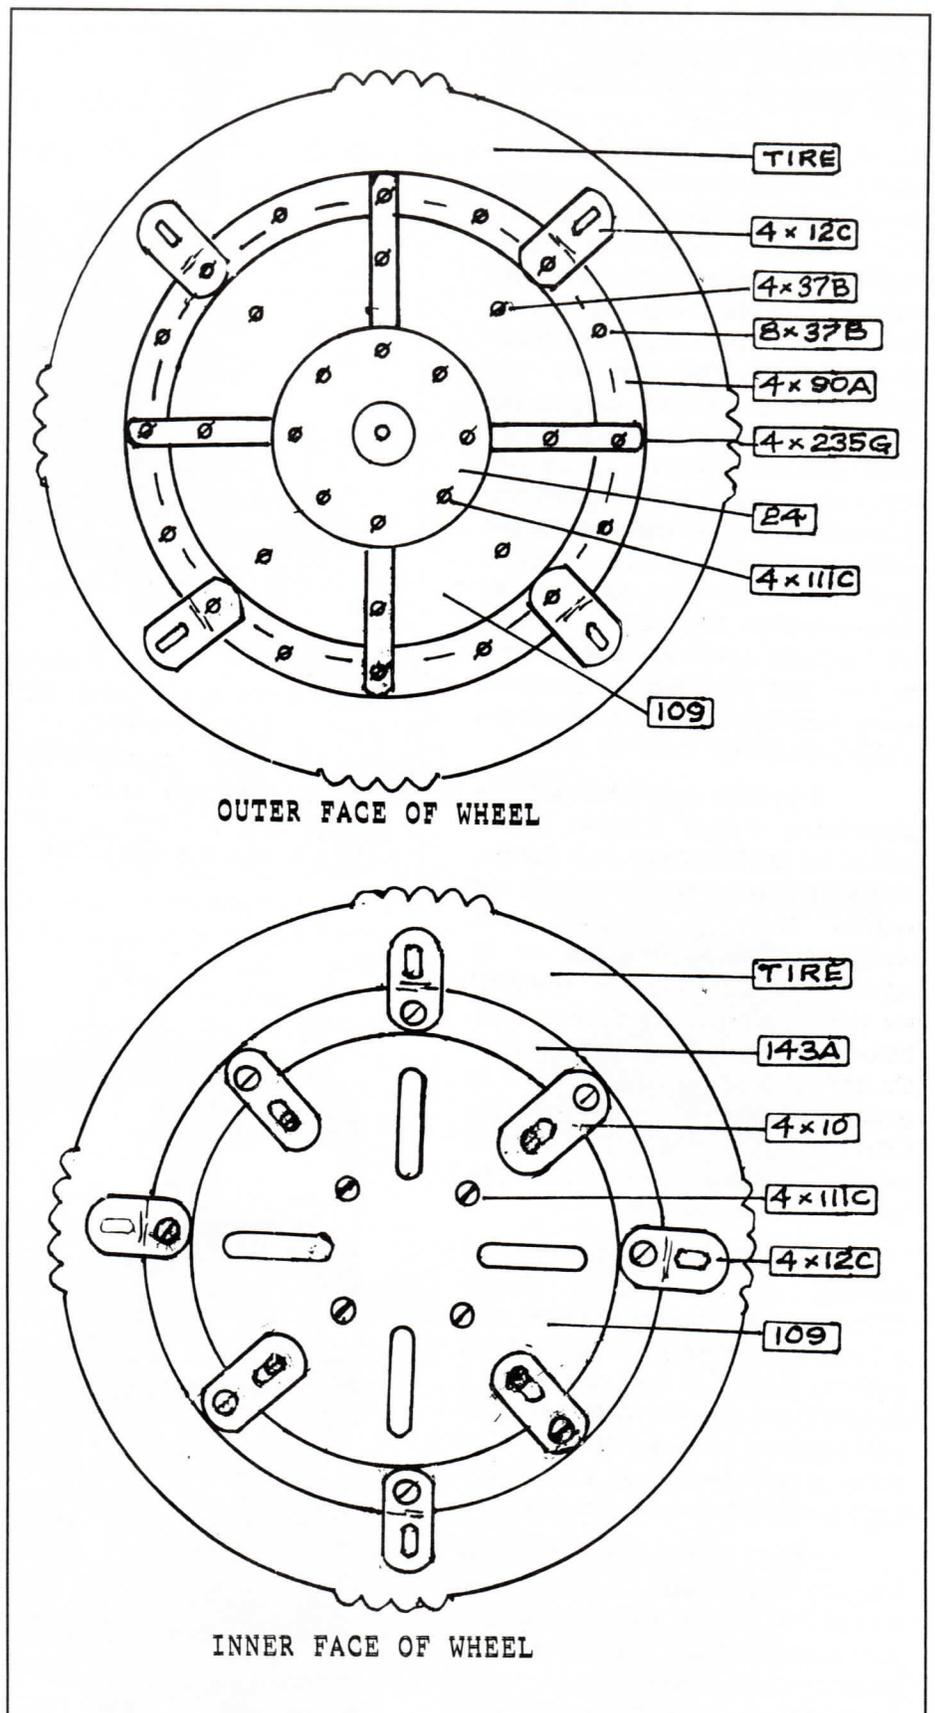

Fig. 7. Wheel
**3.7 Wheels** (Fig.7)
Meccano® part numbers are shown in Fig.7. Under every Obtuse Angle Bracket (12C) on the front, bolt an Angle Bracket (12), elongated hole facing to the rear of the wheel and outward to the rim. The front wheels are spaced out by washers and held by collars on rod on 55. The rim (front and rear sections) is held together by four 3/8in. (9mm) bolts (111C). On the rear wheels, be sure the boss tappings of the Bush Wheels (24) are not blocked by the long bolts; these setscrews hold the wheels to rod 51. If 3½in. Circular Girders (143A) are not available, use the same structure for the rear as for the front of each wheel. The wheel design by Rick Collette for the Road Grader, CMN Model Plan 7, can also be used.